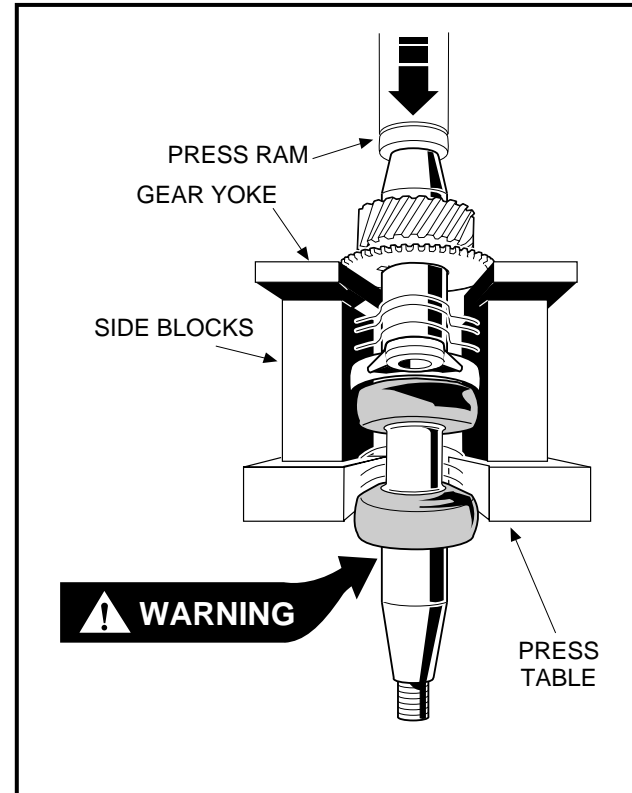

Figure 13-76 Remove Helical and Spur Gears
4. Using a press, push on the end of the crankshaft to pull the spur gear and the helical gear off the crankshaft (**Figure 13-76, Page 13-36**). **See following WARNING and CAUTION.**